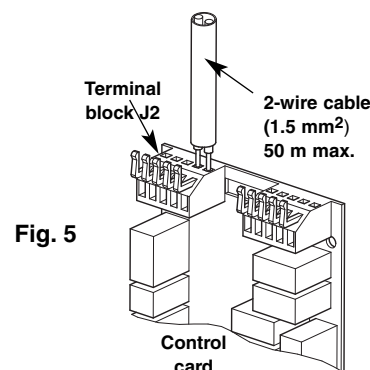

Fig. 5
- Connect the two wires between the thermostat and the control board on terminal block J2 on the unit's control board (Fig. 5).